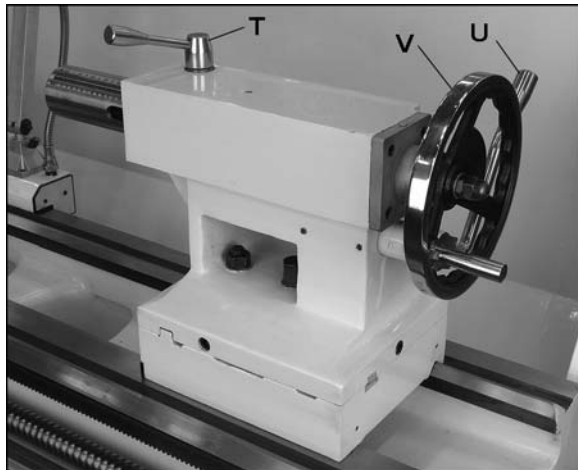

Figure 27 – Tailstock controls
16. **Tailstock Quill Clamping Lever** (T, Figure 27): Rotate clockwise to lock the sleeve. Rotate counterclockwise to unlock.
17. **Tailstock Clamping Lever** (U, Figure 27): Lift up to lock. Push down to unlock.
18. **Tailstock Quill Traverse Handwheel** (V, Figure 27): Rotate clockwise to advance the quill and counterclockwise to retract it. Fully retract it to eject a center or drill chuck.